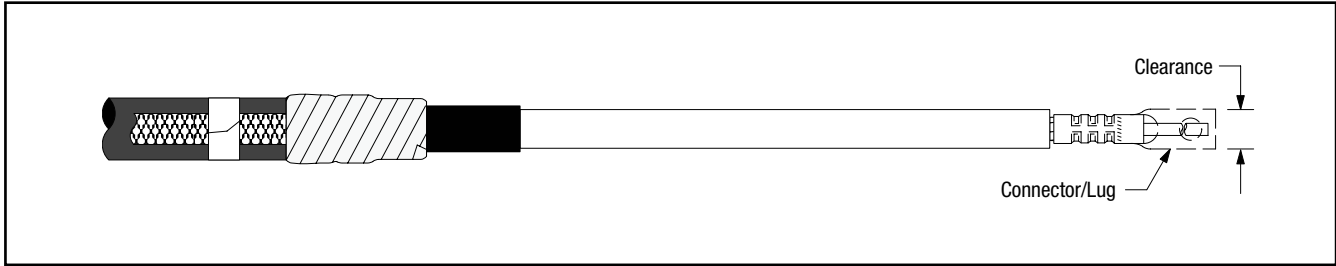

Figure 6
- 3.1 Check to insure 3M™ Cold Shrink QT-III Silicone Rubber Termination assembly fits over the selected lug or connector. If lug or connector (*Figure 6*) will not fit through the termination core, clean the insulation (per Step 4.0) and slide termination on cable before installing lug or connector.